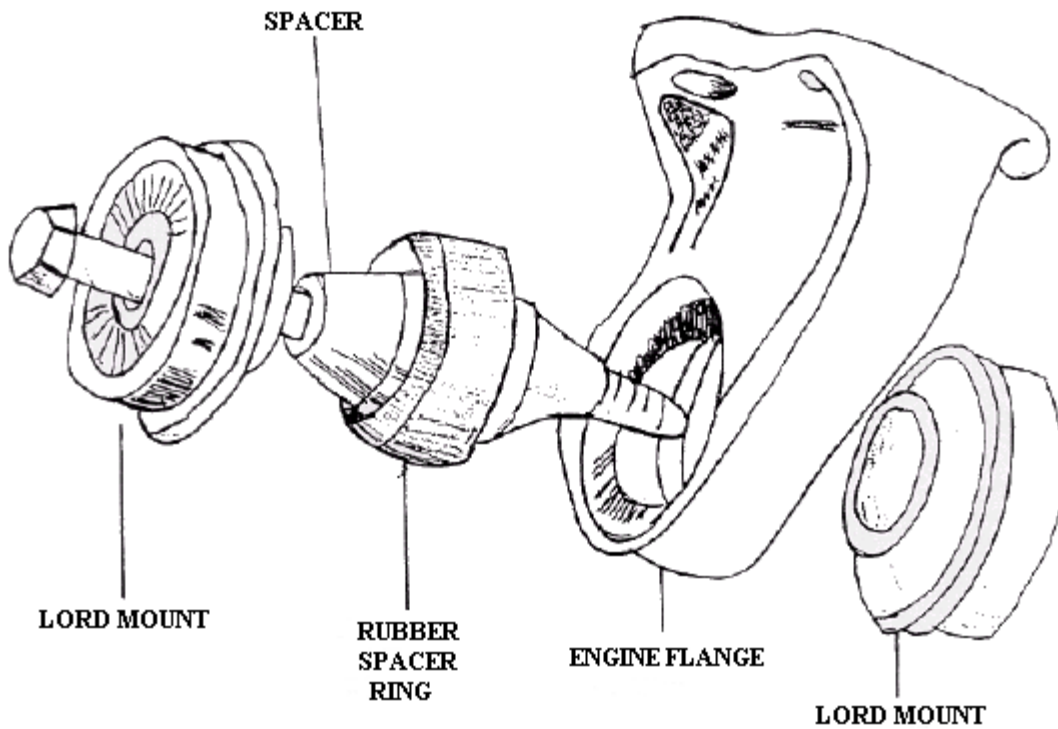

Figure 1
4. Install the new J-2860-5 Mount Assembly consisting of two conical bonded rubber halves, which in appearance are the same as those removed, and the spacer. Before installing the spacer, the rubber spacer ring should be assembled on the spacer by pulling it over the end and sliding it to the center. Install the left hand cone in the engine flange, apex of cone facing inboard, move the left hand mounting bracket flange forward and over this half and start the bolt through the flange and cone. From the right hand side, install the spacer over the bolt and insert the other cone, apex facing inboard. Slide the bolt through the entire assembly. Assemble the washer and nut on the bolt. This bolt should be torqued 38 to 42 foot pounds. This completes the change. Refer to figure 1.